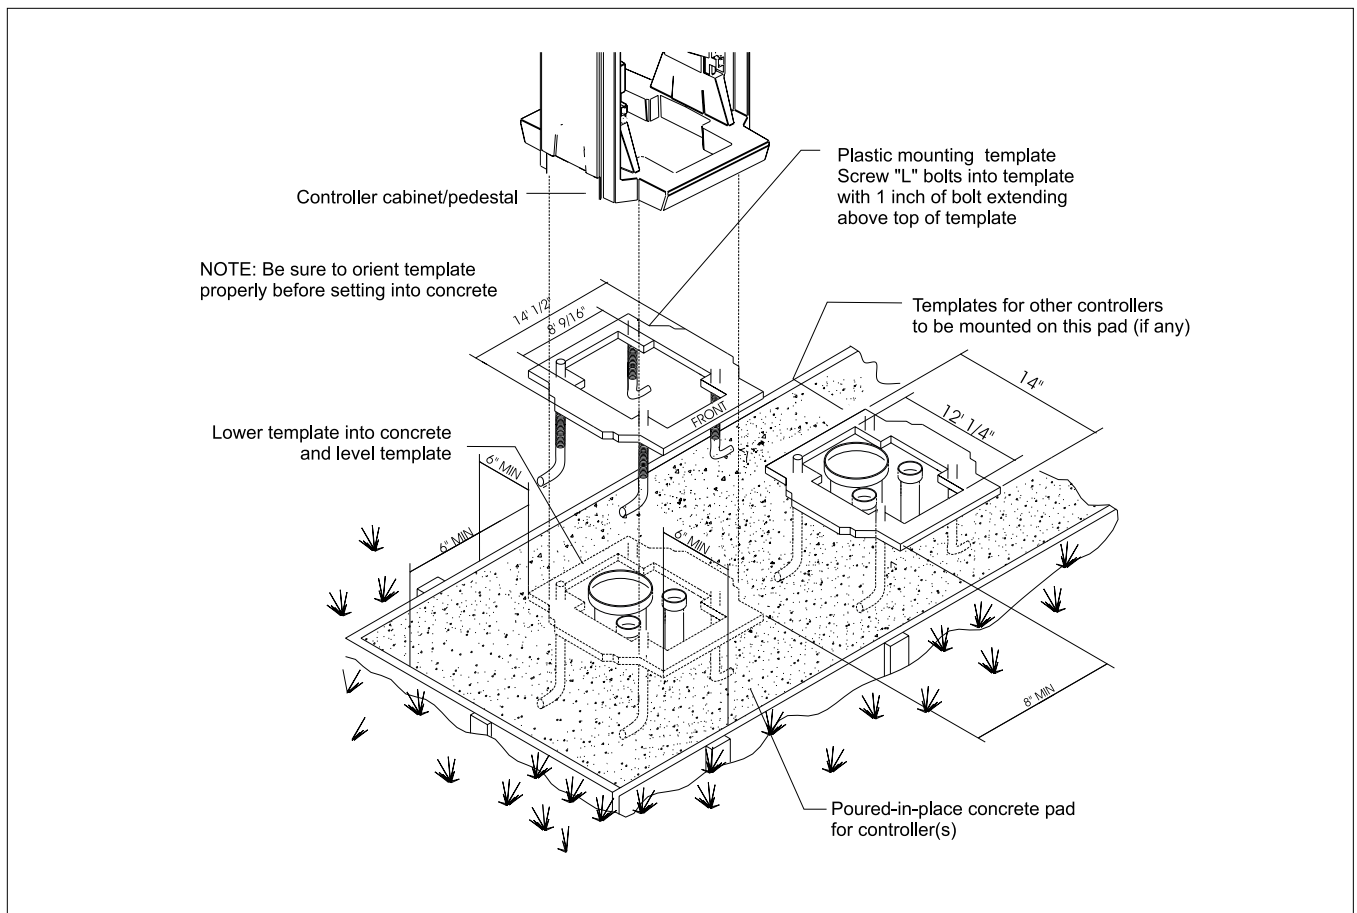

Figure 2: Proper conduit position and template orientation on concrete pad
1. Position a ½-inch sweep “ell” for the 120-, 220-, or 240-volt power wires. Position another ½-inch sweep ell to carry power wires to other controllers (if installing multiple controllers on the same pad). Refer to Figure 2.